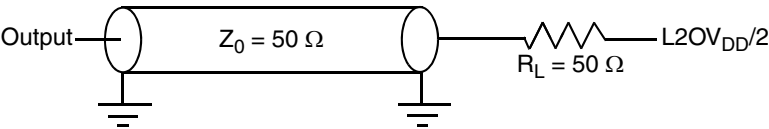

Figure 10. AC Test Load for the L2 Interface
3. All output specifications are measured from the midpoint voltage of the rising edge of L2SYNC_IN to the midpoint of the signal in question. The output timings are measured at the pins. All output timings assume a purely resistive 50-Ω load (see Figure 10).
Figure 10 provides the AC test load for L2 interface of the MPC755.